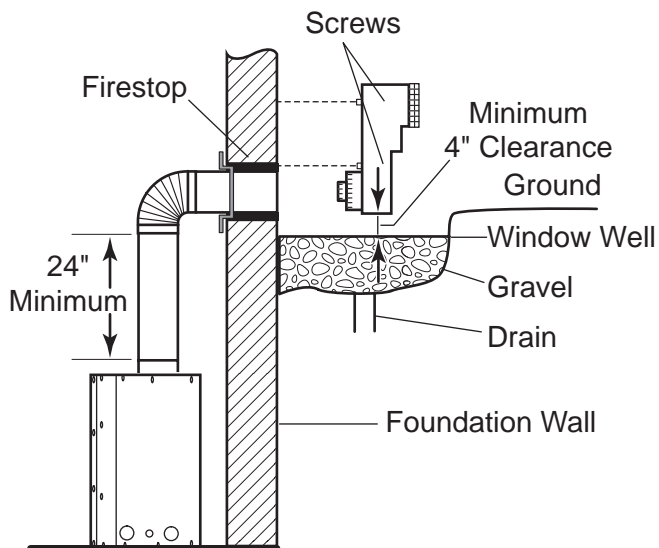

Figure 26 - Below Grade Installation
2. Remove soil to a depth of approximately 16" below base of snorkel. Install drain pipe. Install window well (not supplied). Refill hole with 12" of coarse gravel leaving a clearance of approximately 4" below snorkel. *See Figure 26.*
7. Level the soil so as to maintain a 4" clearance below snorkel. *See Figure 26.*